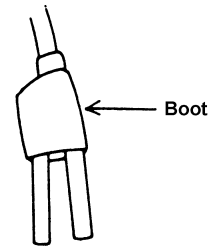

Figure 1.2
4. Attach the torch to the power assembly. The air hose should be attached to the air hose connection. Replace the insulated boot over the air and power connections. See Figure 1.2.